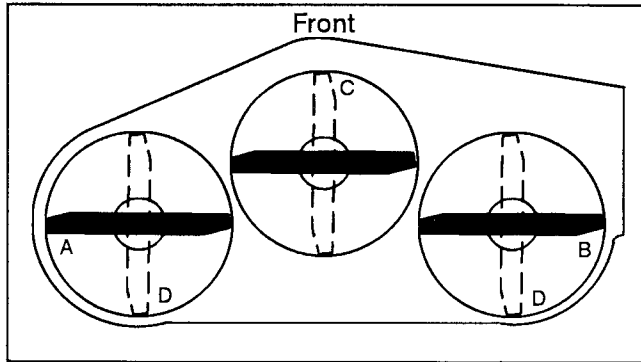
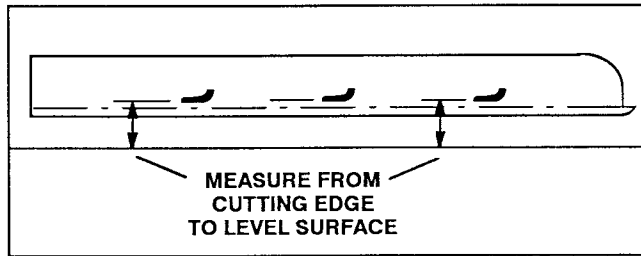

Figure 15
Figure 16
1. Position blade(s) front-to-rear (Fig. 15). Measure at "C" and "D" locations (Fig. 15), from level surface to the cutting edge of blade(s) (Fig. 16).
1. Position blade(s) side-to-side (Fig.15). Measure at "A" and "B" locations (Fig. 15), from level surface to the cutting edge of blade(s) (Fig. 16).